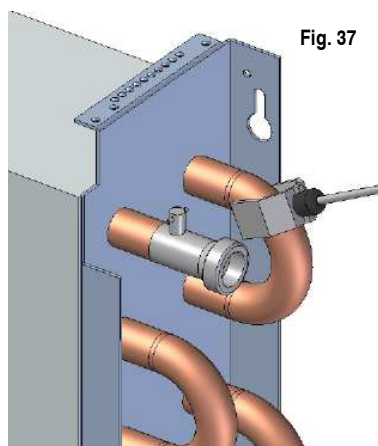
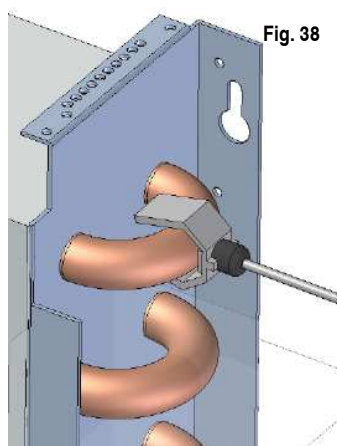

Fig. 37
Fig. 38
4. Attach the clip of the water detection sensor to the tubes as is shown in figs. 37 and 38, taking into account the position of the water inlet sockets to the right (fig 37) or left (fig. 38).